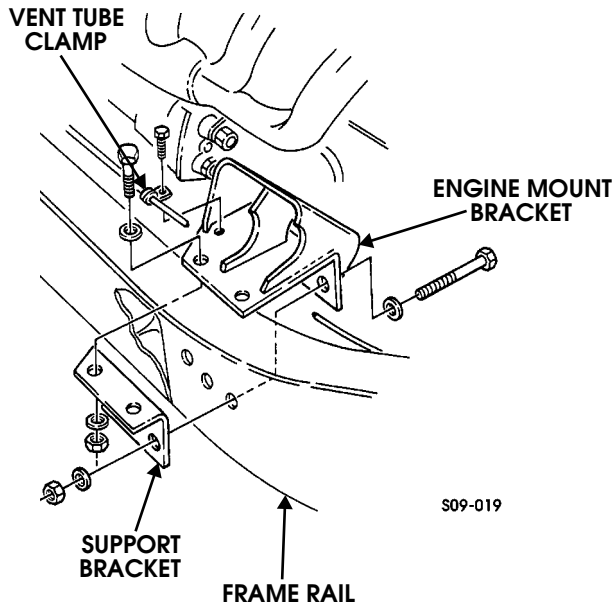

Figure 9-139: Right Engine Mount Bracket Replacement
2. Remove two locknuts, washers, bolts, and washers securing support bracket to engine mount bracket (Figure 9-139).
1. Install support bracket and engine mount bracket on frame rail with three washers, bolts, washers, and locknuts (Figure 9-139).